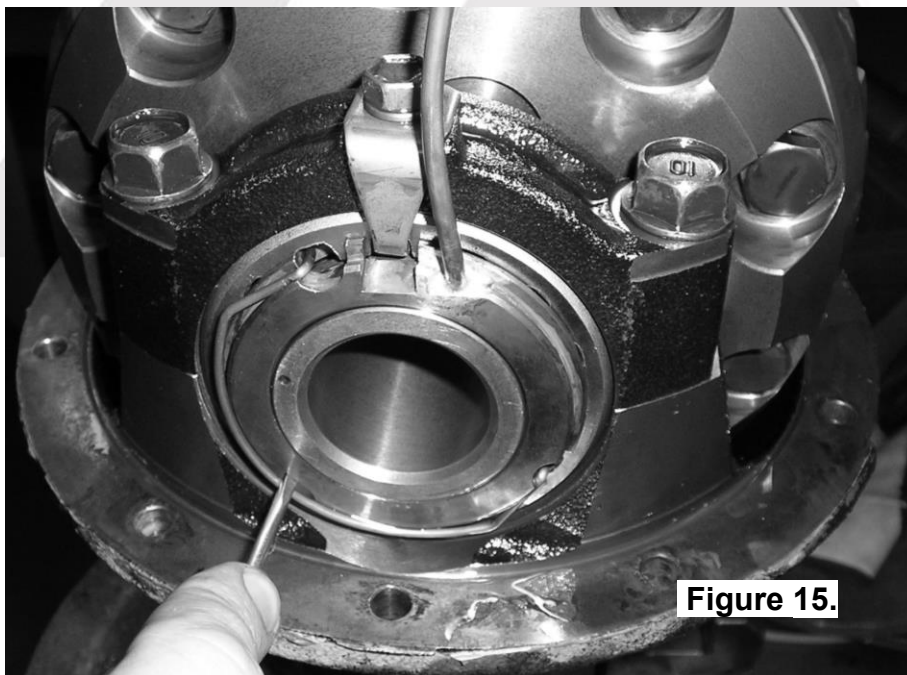

Figure 15.
- Install the spring clip by first hooking both ends of the clip into the small aligned cutouts of the seal housing and the adjuster nut, and then snapping the clip into the groove of the seal housing using a screwdriver. (Fig.15.)